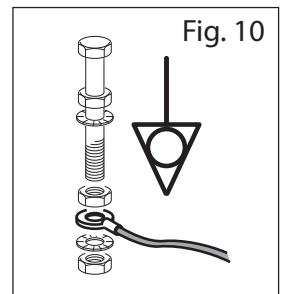

Fig. 10
The equipment must be included in an "Equipotential" earth unground system Fig. 10)
- Connect an edge of the earth electric cable (the cable must be characterized by the double colour yellow/green) to the system used for the appliance “Equipotential” connection (see schematic drawing Fig. 10).